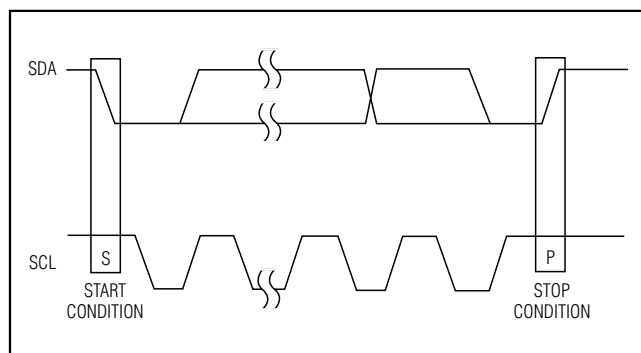

Figure 6. Start and Stop Conditions
Each transmission consists of a START condition sent by a master, followed by the MAX6618 7-bit slave address, plus an $R/\overline{W}$ bit, one or more data bytes, and finally a STOP condition (Figure 6). To write to a MAX6618 register, a write transmission consists of a START condition, followed by the MAX6618 7-bit slave address plus $R/\overline{W} = 0$, a register address byte, one data byte, and finally a STOP condition. To read from a MAX6618 register, a combined write and read transmissions are required. The first write transmission consists of a START condition, followed by the MAX6618 7-bit slave address plus $R/\overline{W} = 0$, a register address byte, and finally a STOP condition that sets the register to be read. The second read transmission consists of a START condition, followed by the MAX6618 7-bit slave address plus $R/\overline{W} = 1$, one or more data bytes, and
Both SCL and SDA remain high when the interface is not busy. A master signals the beginning of a transmission with a START (S) condition by transitioning SDA from high to low while SCL is high. When the master has finished communicating with the slave, it issues a STOP (P) condition by transitioning SDA from low to high while SCL is high. The bus is then free for another transmission (Figure 6).
P: I²C STOP CONDITION. SEE FIGURE 6.
S: I²C START CONDITION. SEE FIGURE 6.